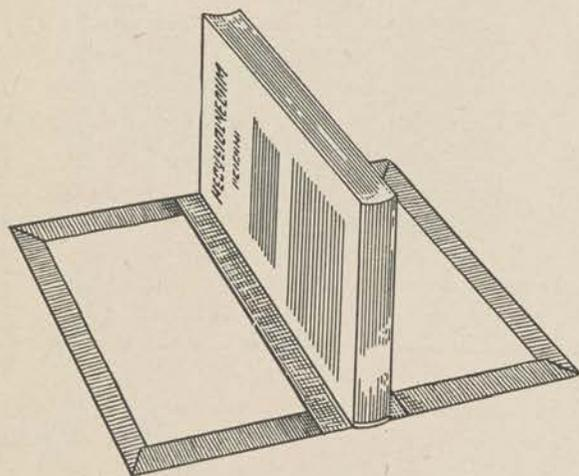

Figure 283.
*e.* The book is now fastened in the binder. Spread paste on the buckram flaps which extend beyond the back of the book. Do not paste the back itself. Place the book in the exact center of the paper strip which marks the middle of the binding. Press down the buckram flaps and hold them with weights until the paste is dry (fig. 283).